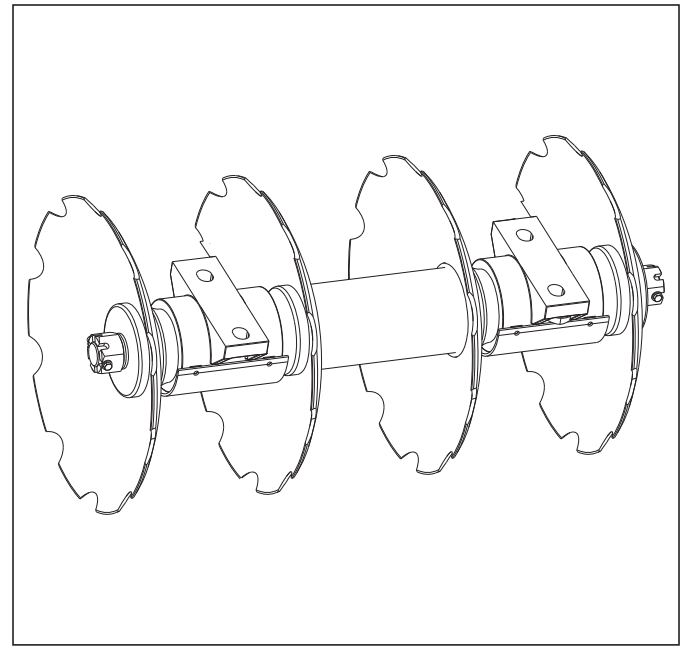

Figure 4-8: Disc Gang Shaft
4. On new machines and after changing disc blades, check and tighten all disc gang shafts after the first **8, 30 & 120 hours of service** *See Figure 4-8*